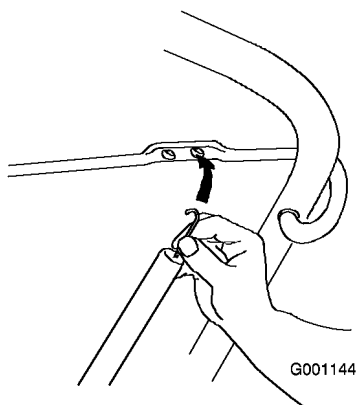

Figure 5
4. Hook the end of the control cable spring into the bottom hole of the control bar (Figure 5).